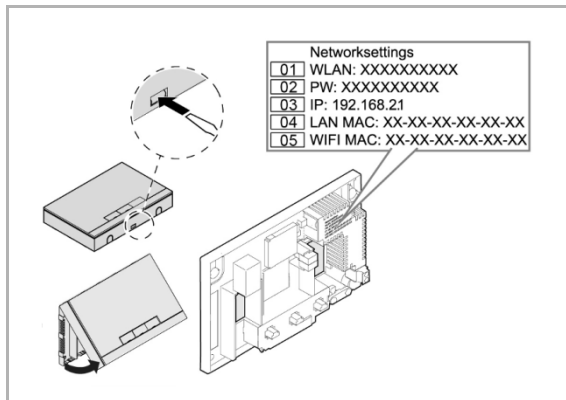

Fig. 20: Text on the interior side of the System Access Point 6200 AP-101
3. Connect the terminal device with the WLAN of the System Access Point (SSID: SysAPXXXX). Enter the password, see text on the rear side of the System Access Point (Fig. 19 or Fig. 20).